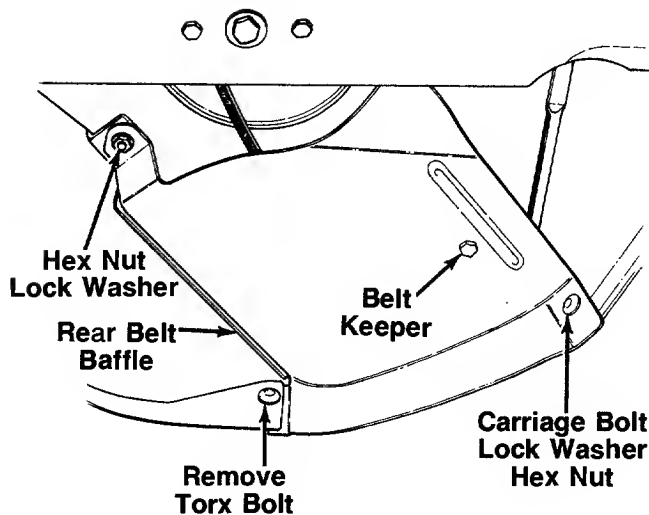

FIGURE 26.
4. Remove the rear belt baffle by removing the lock washer and hex nut shown in figure 26. Then remove one Torx bolt, using a #27 Torx driver. A 9/64" Allen wrench may also be used. Then remove one carriage bolt, lock washer and nut as shown.
**NOTE:** When reassembling the rear belt baffle, make certain the belt keeper is outside of the belt, and the edge of the rear belt baffle is between the rear chute baffle and the rear panel as shown in figure 26. Make certain to tighten all nuts and bolts securely. If plastic was placed under the gas cap, be certain to remove it.